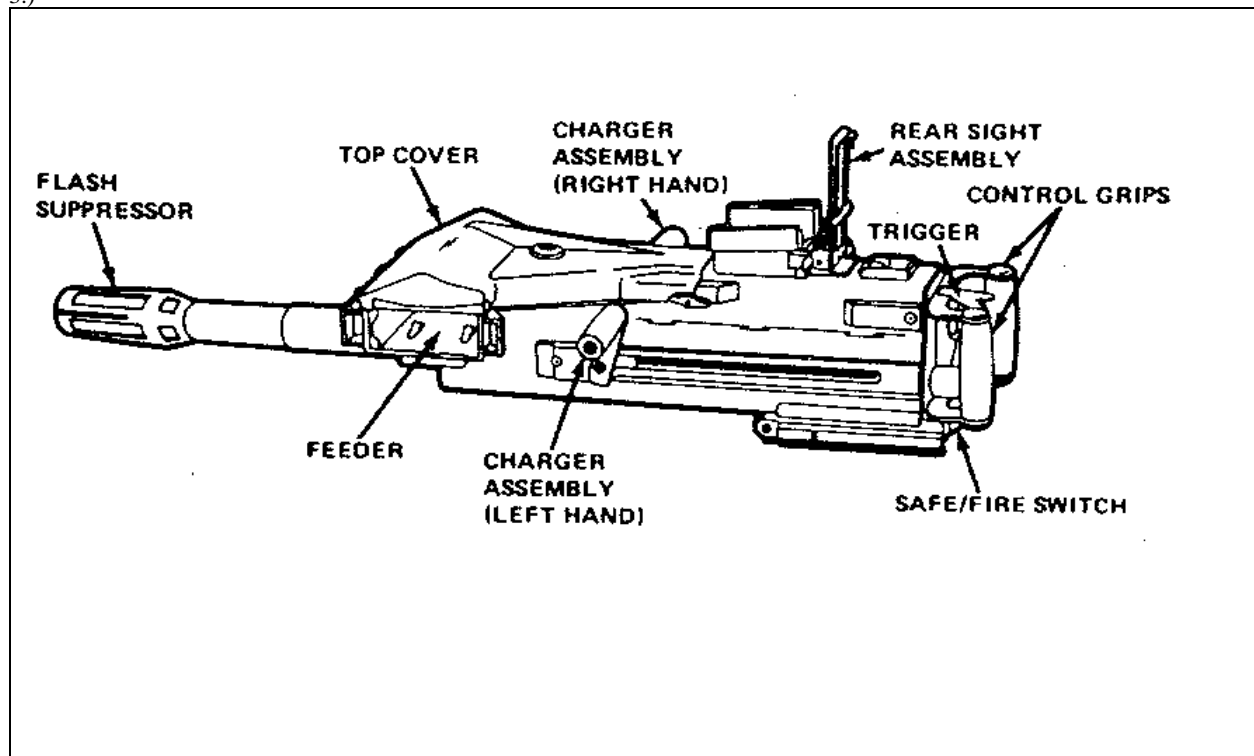

Figure 3. MK19 MOD 3 machine gun
- a. Characteristics. The MK19 MOD 3, 40mm machine gun is an air-cooled, blowback-operated, fully automatic weapon. (See Figure 3.)